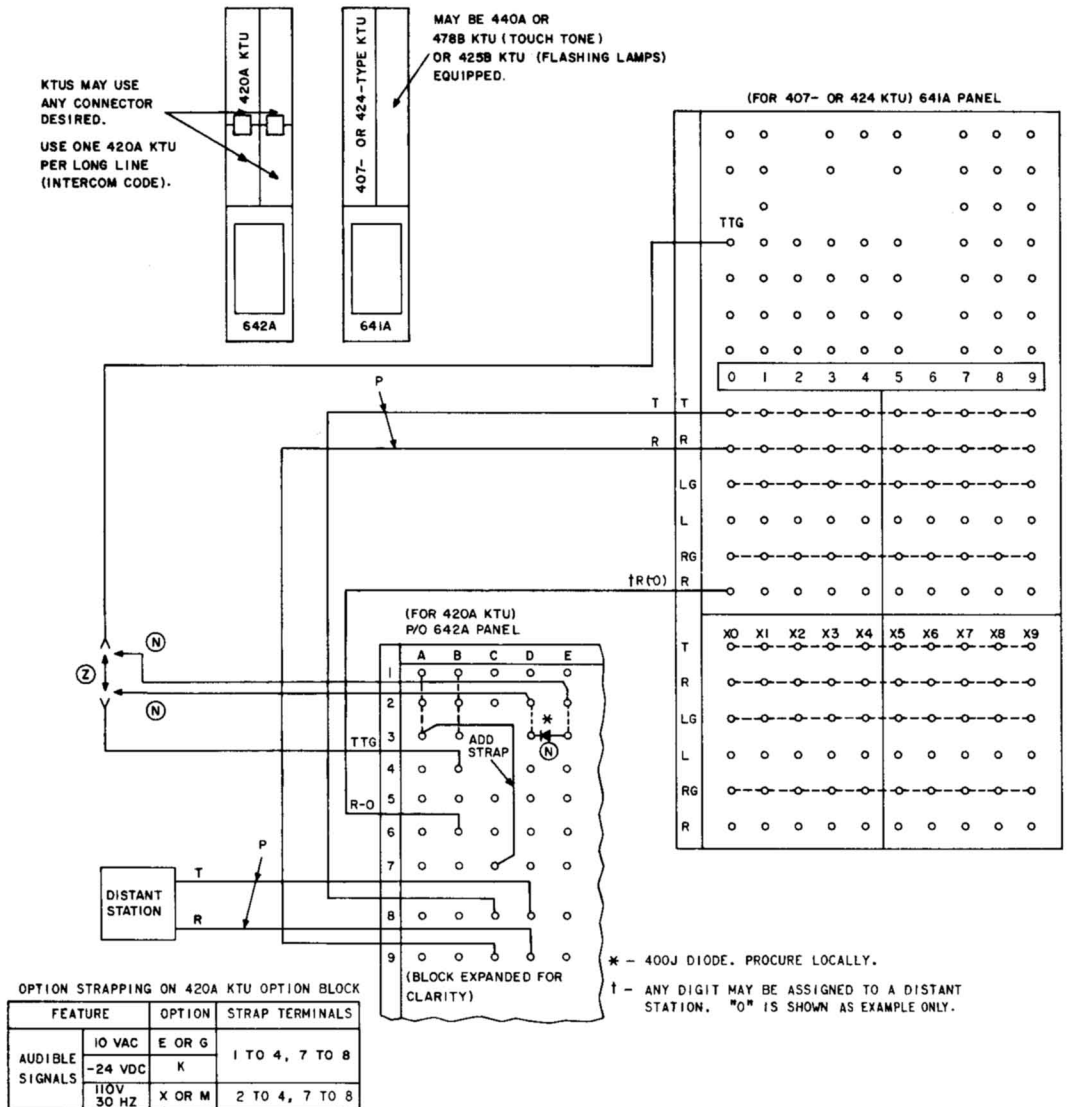

Fig. 37—Long Line Circuit (420A KTU) Option for Basic or Deluxe Dial Intercom
**K. 420A KTU—Long Line Circuit (Fig. 37)**